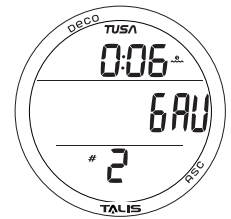

Fig. 81 - GAUG SURF MAIN
**GAUG Surface Main**, information includes (Fig. 81):